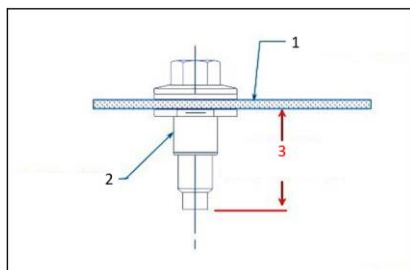

Fig. 1
- Fasteners (including PlusNut® or equivalent) that protrude below the vehicle floor must not exceed 25 mm (1.0") (Figure 1)